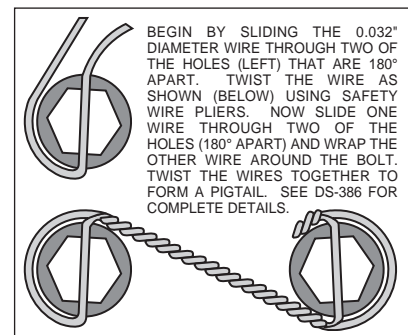

Figure 3. Safety Wire Diagram
•Install wheel studs (5) into the hub (6). Torque to 77 ft-lb. **NOTE:** There are two lug patterns of five holes each in the hub (5 x 4.50 and 5 x 4.75). Make sure of the correct hole pattern for the wheel application before installing the studs into the hub.
•Attach rotor adapter plate (9) to rotor (10) using bolts (11). Torque bolts (11) to 180 in-lb. Safety wire bolts (11) using standard 0.032 inch diameter stainless steel safety wire as shown in Figure 3. Please refer to Wilwood's data sheet DS-386 (available at [www.wilwood.com/pdf/ds386.pdf](http://www.wilwood.com/pdf/ds386.pdf)) for complete safety wire installation instructions. **NOTE:** Dished side of adapter plate (9) should face hub (6). The mounting tabs on the rotor (10) should face toward the hub as well and line up with the holes on the adapter plate (9).
•Mount the adapter/rotor assembly (9 and 10) to the hub (6) using bolts (12). Torque bolts (12) to 25 ft-lb. Safety wire bolts (12).
•Pack the large inner bearing cone (7) with high temperature disc brake bearing grease (available from your local auto parts store) and install into the backside of the hub (6).
•Install the grease seal (8) by pressing into the backside of the hub (6).
•Pack the small outer bearing cone (13) with high temperature disc brake bearing grease and install into front of hub (6). Slide the hub assembly (5, 6, 7, 8, 9 and 10) with outer bearing cone (13) onto the spindle. Secure using spindle washer (14), stock adjusting nut and nut locking device. Adjust bearings per Original Equipment Manufacturer (OEM) specifications.
•Install the o-ring (16) and the dust cap (15) onto the hub (6). Friction created by the o-ring (16) on the dust cap (15) keeps it from unscrewing on its own.
•**NOTE:** Please reference the caution statement at the beginning of the assembly instructions. With the bleed screws pointing up, mount the caliper (17) onto the caliper bracket (1) by positioning the mounting tabs on the backside of the bracket. Slide bolt (18) through lock washer (19) from the backside. Place two washers (20) between the caliper (17) mounting tabs and the caliper bracket (1) during initial installation. Finger tighten. View the rotor (10) through the top opening of the caliper (17). The rotor (10) should be aligned in the center of the caliper (17). If not, adjust the caliper (17) by using 0.035 inch thick shims (20) placed between the caliper mounting bracket (1) and the caliper (17). Both the top and bottom must have the same thickness of shims between the caliper and bracket. Finger tighten and recheck alignment. If everything is properly aligned, apply red *Loctite*® 271 to bracket bolt threads (2) and torque to 42 ft-lb as well as bracket bolt threads (4) and torque to 42 ft-lb. Then apply red *Loctite*® 271 to caliper mounting bolt threads (18) and torque to 30 ft-lb. Safety wire caliper bolts (18).
•Install the disc brake pads (21) and secure using the pad clip retainer (22).